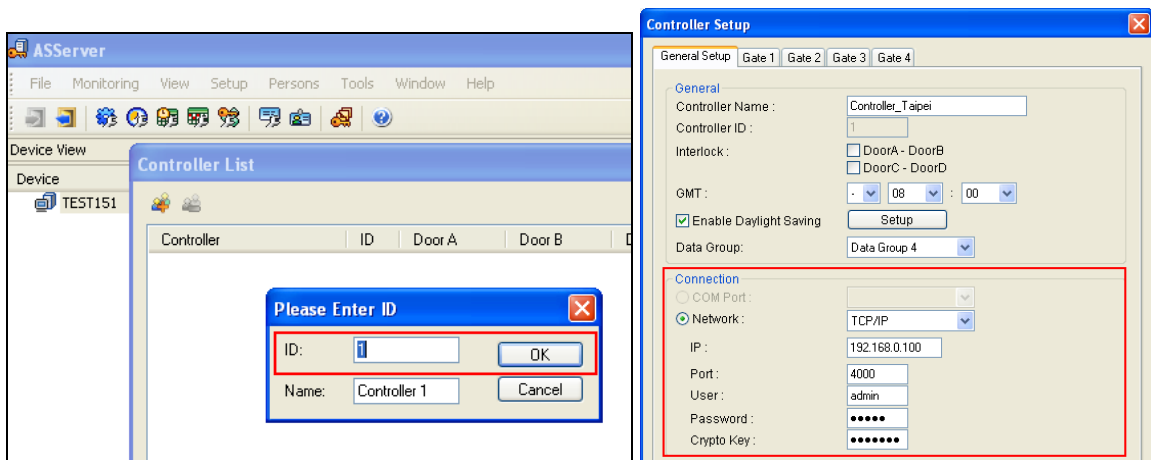

Figure 10-3
7. On the GV-ASManager, enter the following settings. See Figure 10-3.